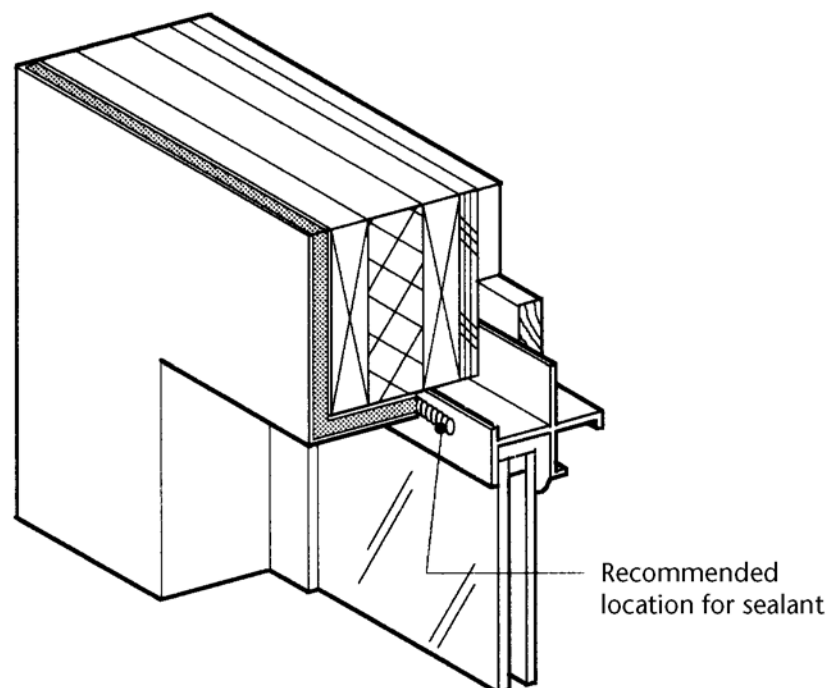

Figure 5-2
WSEC states specific locations in buildings requiring sealing. Air leakage must be controlled where outdoor ambient conditions are separated from interior spaces that are heated or mechanically cooled (see Figure 5-2).
**Windows and Doors.** All windows and doors in exterior walls must be sealed between the frame and the rough opening framing material (see Figure 5-2).